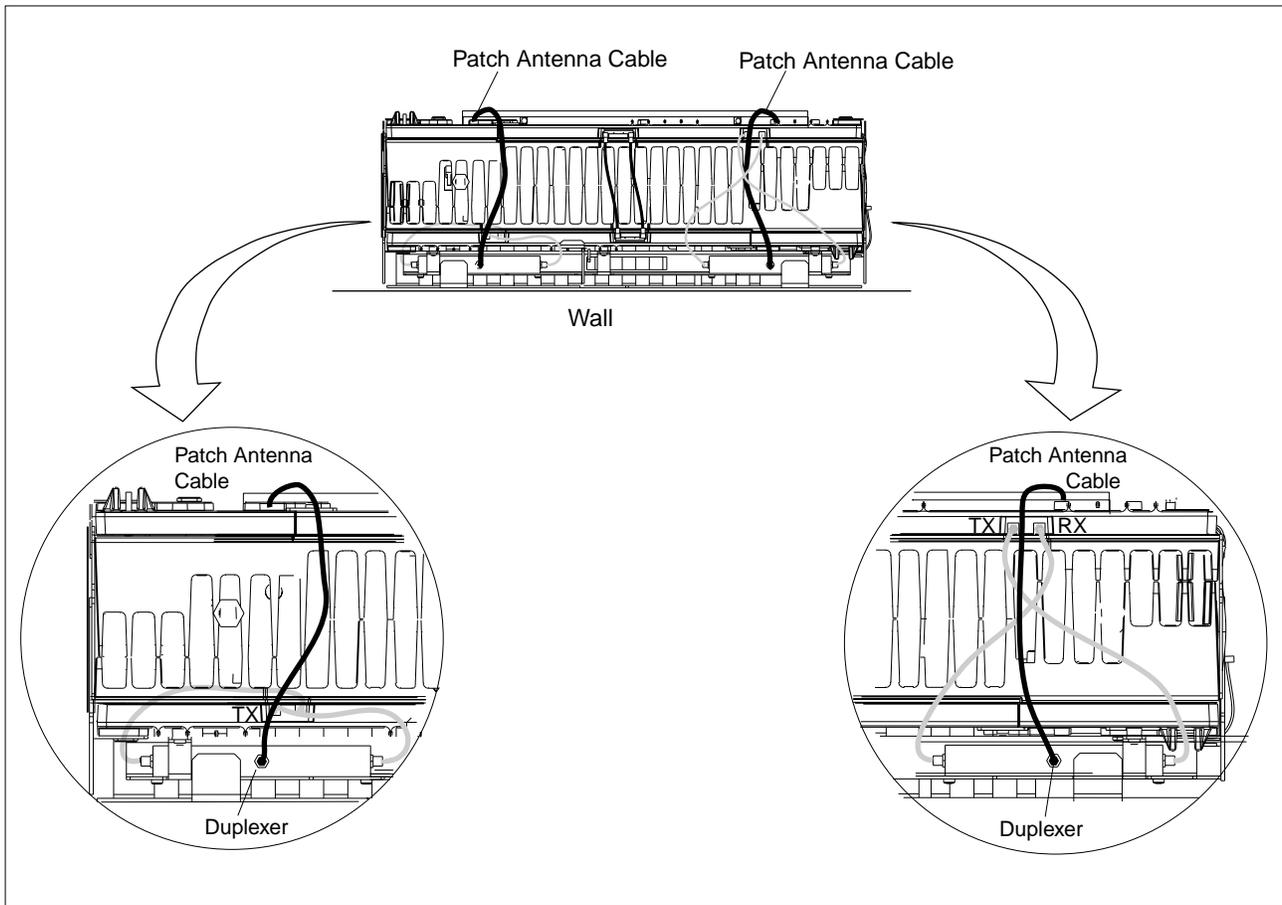

Figure 6-15. Radio Head Patch Antenna Cables and External Duplexers
5. If a patch antenna is installed, refer to Figure 6-15 on page 6-44 and disconnect the two patch antenna cables from the external duplexers.
6. Attach the patch antenna cables to the external duplexers on the replacement Radio Head (Figure 6-15 on page 6-44).
12. If using a patch antenna, verify that the monopole antennas and the monopole antenna brackets have been removed from the Radio Head and that the patch antenna cables from the old Radio Head have been connected to the external duplexers on the new Radio Head (Step 6 on page 6-44). See Figure 6-15 on page 6-44 for the location of the external duplexers..